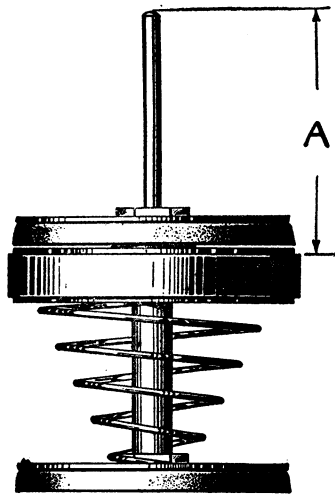

Fig. 22 Setting length of push rod
33. Distance "A", Fig. 22, should be within the tolerances shown. If necessary, readjust nuts to obtain desired result.